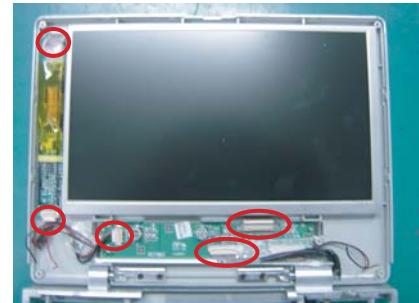

Fig.9
7. Remove IF board and HV board and LCD TFT as Fig.9